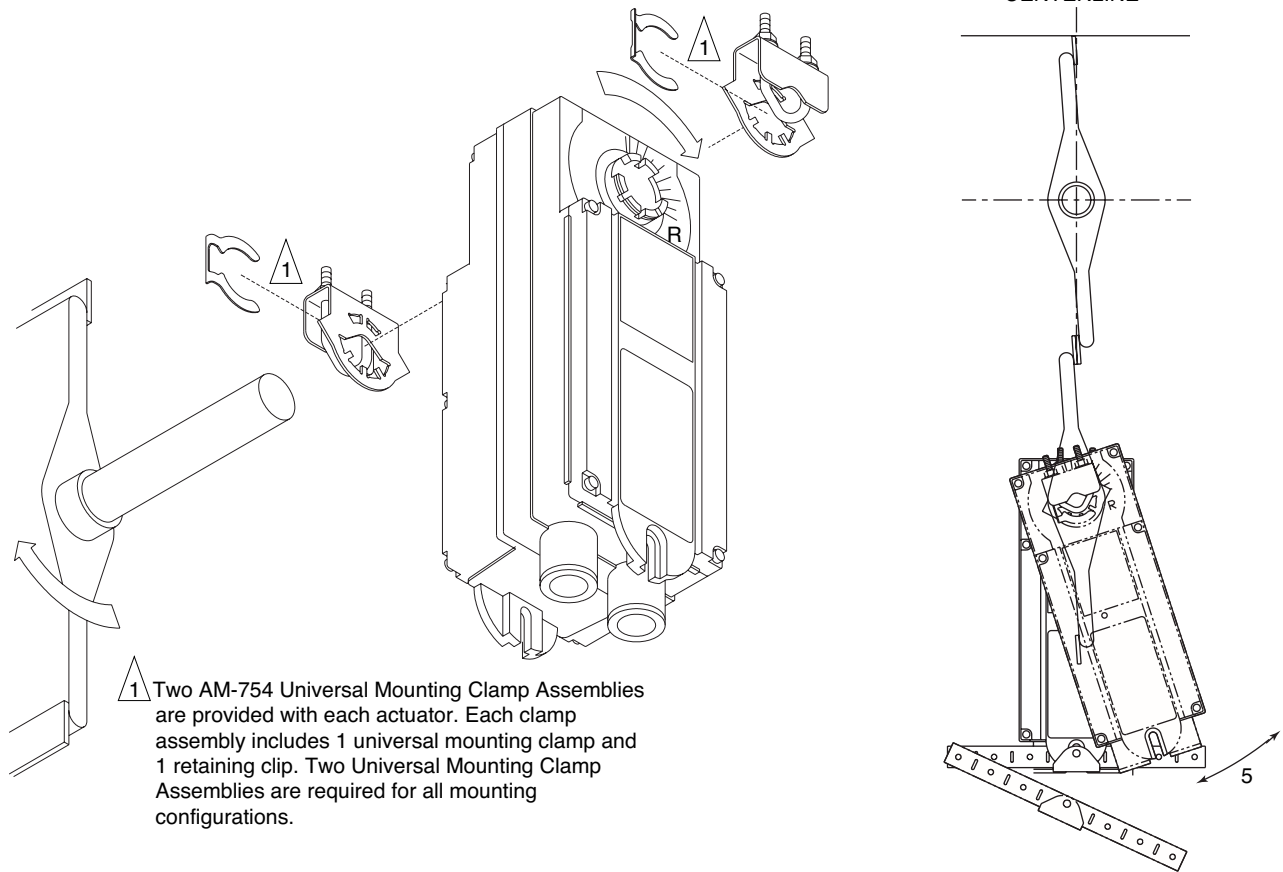
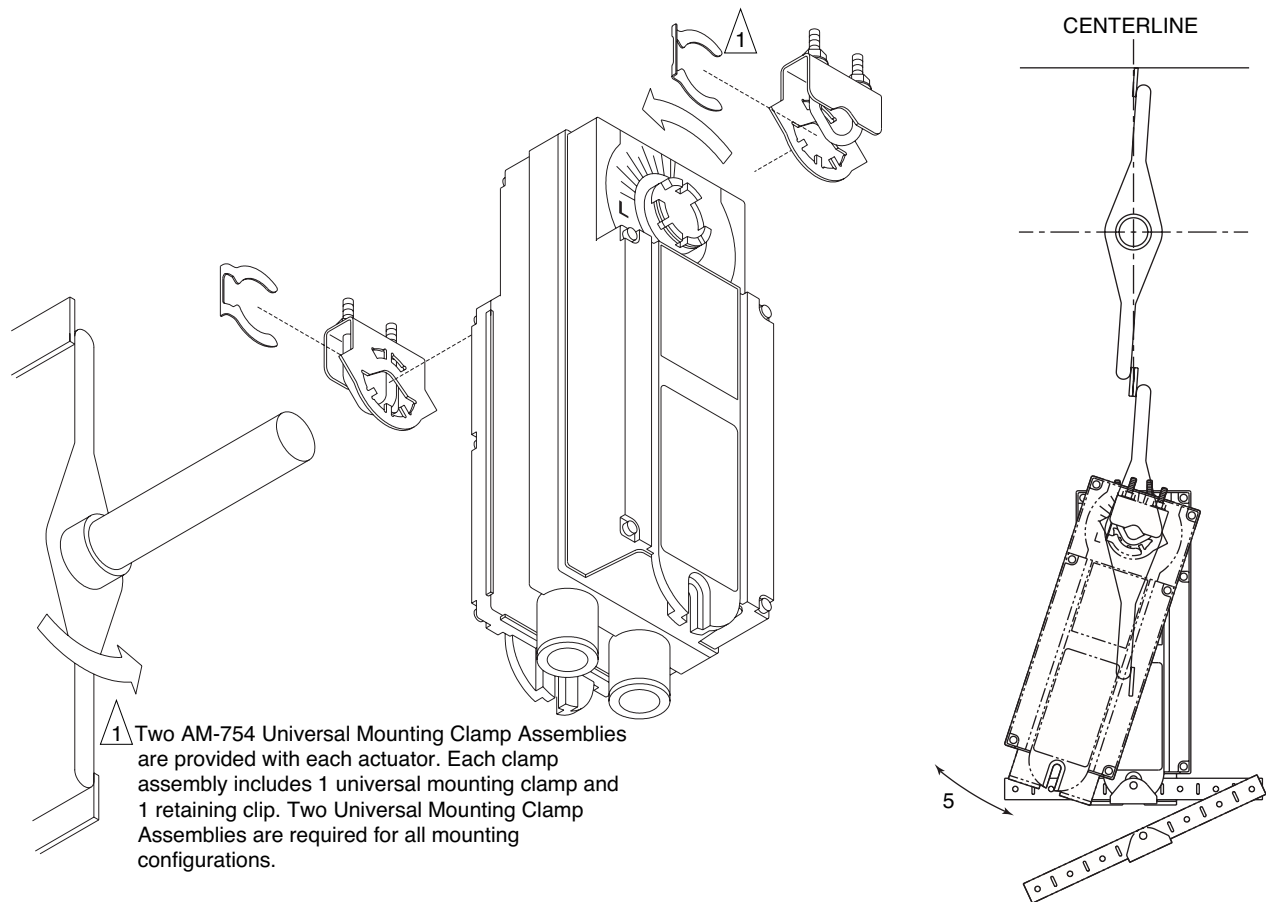

Figure-5 Long Damper Shaft Mounting with Clockwise Spring Return for Normally Closed Damper.
Figure-6 Long Damper Shaft Mounting with Counterclockwise Spring Return for Normally Closed Damper.
- If the damper shaft rotates clockwise to the closed position, mount the actuator with the side marked “R” facing the installer. See Figure-5.
- If the damper shaft rotates counterclockwise to the closed position, mount the actuator with the side marked “L” facing the installer. See Figure-6.
6. Attach one side of the anti-rotation bracket to the mounting surface with one of the screws provided. Leave the screw loose so that the bracket can be rotated. See Figure-5 for clockwise or Figure-6 for counterclockwise spring return.
7. Pivot the anti-rotation bracket away from the actuator. See Figure-5 or Figure-6.
8. Loosen the universal mounting clamps, making sure not to move the damper shaft. Rotate the actuator approximately 5° in the direction which would open the damper. See Figure-5 or Figure-6.
10. Manually rotate the actuator toward the full-closed position to apply pressure to the damper seals. See Figure-5 or Figure-6.
11. Pivot the anti-rotation bracket into place and secure the other side of the bracket onto the mounting surface using the other screw provided with the actuator. See Figure-5 or Figure-6.
12. Verify that the damper is in its full-closed position and actuator at 90° (perpendicular) to the damper shaft. See Figure-5 or Figure-6.
- If the damper shaft rotates clockwise to the closed position, mount the actuator with the side marked "R" facing the installer. See Figure-5.
- If the damper shaft rotates counterclockwise to the closed position, mount the actuator with the side marked "L" facing the installer. See Figure-6.
9. Attach one side of the anti-rotation bracket to the mounting surface with one of the screws provided. Leave the screw loose so that the bracket can be rotated. See Figure-5 for clockwise or Figure-6 for counterclockwise spring return.
10. Pivot the anti-rotation bracket away from the actuator. See Figure-5 or Figure-6.
11. Loosen the universal mounting clamps, making sure not to move the damper shaft. Rotate the actuator approximately 5° in the direction which would open the damper. See Figure-5 or Figure-6.
13. Manually rotate the actuator toward the full-closed position to apply pressure to the damper seals. See Figure-5 or Figure-6.
14. Pivot the anti-rotation bracket into place and secure the other side of the bracket onto the mounting surface using the other screw provided with the actuator. See Figure-5 or Figure-6.
15. Verify that the damper is in its full-closed position and actuator at 90° (perpendicular) to the damper shaft. See Figure-5 or Figure-6.